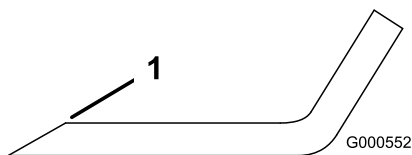

Figure 83
1. Use a file to sharpen the cutting edge at both ends of the blade (Figure 83).
Note: If the blade is not balanced, file some metal off the end of the sail area only (Figure 83).